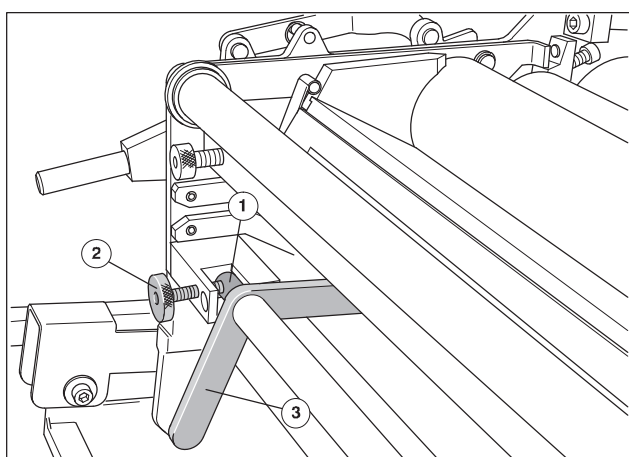

Fig. 25 Washup blade inserted
2. Insert the washup blade with the handles (Fig. 25/3) into the numbering device up to stop under the ink fountain.
3. In doing so, insert the two bolts on D.S. (Fig. 25/1) and O.S. in the corresponding recesses.
4. Uniformly screw in the knurled screws in D.S. (Fig. 25/2) and O.S. until the washup blade lies against the ink distributor for the washup.
5. **Engage the washup blade:** loosen the knurled screws on D.S. (Fig. 25/2) and O.S.; spring pressure pushes the blade way from the ink distributor.